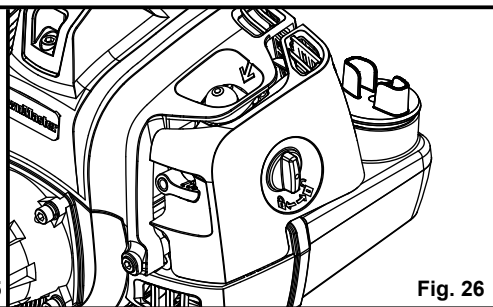

Fig. 26
- Replace the air filter cover ensuring the air filter is completely covered (Fig. 26).